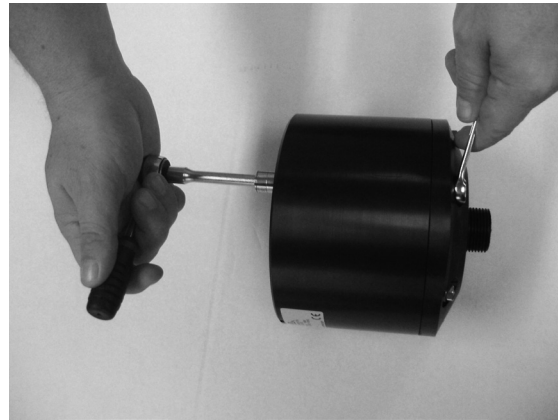

Figure 2
Unscrew the bolts of the assembly pins (6) and remove the pins out of the dampener body. (see figure 2)